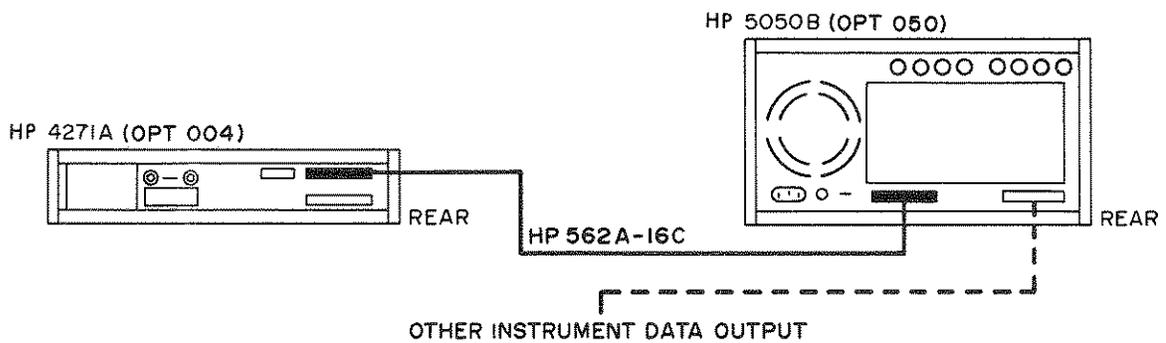

Figure 3-17. Rapameter Serial BCD OUTPUT (OPT 004).
b. Option 004 is used to (alternately) transfer C/L data and G/R/D data in a parallel BCD code. Refer to Figure 3-17. Recorder Models 5055A, 5050B OPT 051 and 5050B OPT 050 may be used with a Model 4271A equipped with option 004. Data measured with bias voltage can also be recorded (except for bias voltage itself).